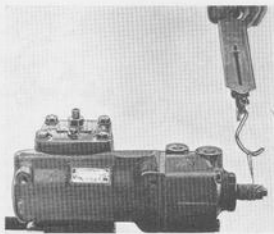

Fig. 6-102. Checking torque
15. Turn the steering spindle to the end position. Check for sufficient torque about 1/2 turn from the end position (Fig. 6-102). Adjust the steering spindle to the center position. Screw in the adjuster screw (11) so that a noticeable pressure point is obtained. Measure the torque and adjust so that the balance gives a reading of 45—60 N (10—13 lb) greater than at the end position, but max. 185 N (40 lb). Tighten the nut (17) to a torque of 25 Nm (18 lbf ft) while holding the adjuster screw in position.